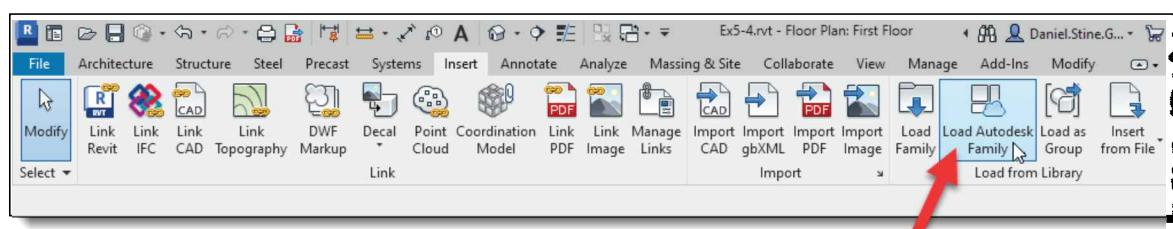
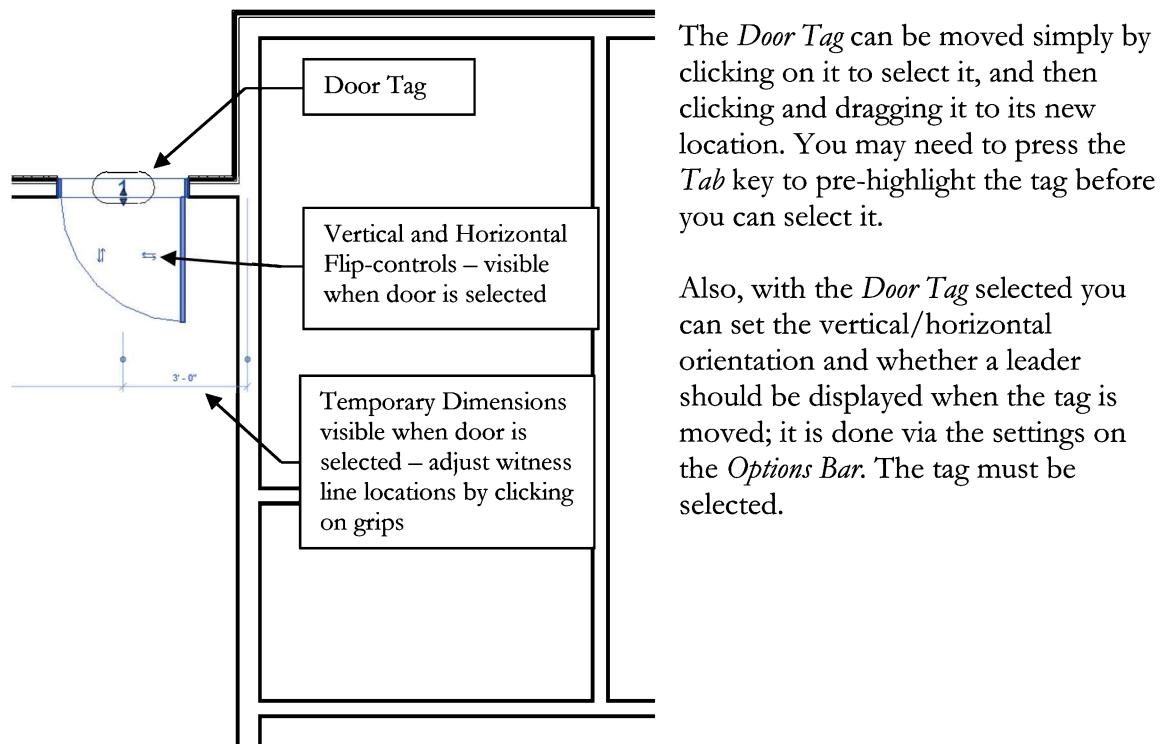

FIGURE 5-4.1 Load content from Library
FIGURE 5-4.4 First door placed at rear of garage
2. On the Insert tab, select **Load Autodesk Family** (Figure 5-4.1). **FYI:** This tool requires an internet connection, as the content is coming from the cloud.
8. Select **Tag on Placement** on the *Ribbon* to toggle it on if needed (it is on when highlighted with blue as shown in Fig. 5-4.1), and then place one door in the North wall of the garage as shown in Figure 5-4.4.